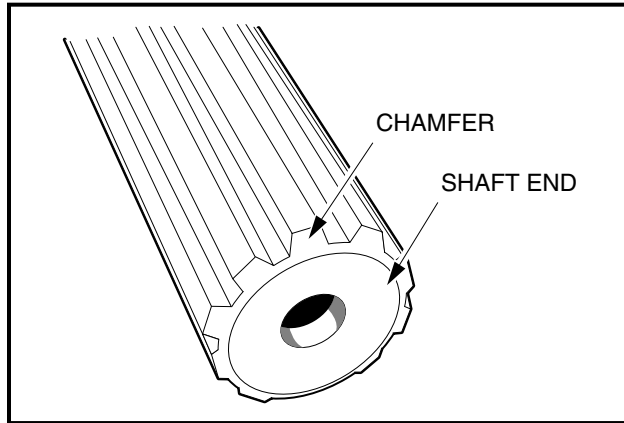

Figure 15-16 Clean Chamfer and Input Shaft End
- 2.6. Check the chamfer and end of the input shaft to ensure these areas are completely clean of grease as shown (**Figure 15-16, Page 15-13**).